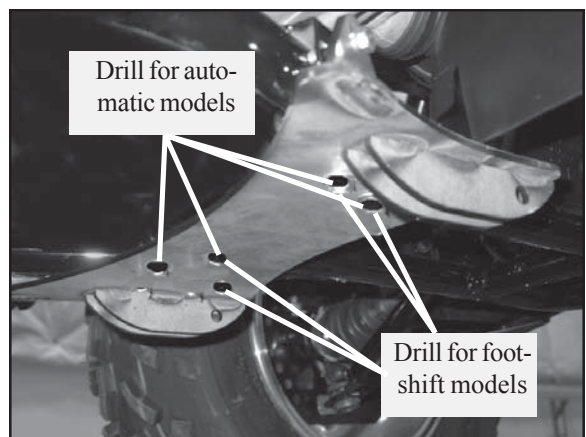

Figure 5 Drill through SkidPlate
4. With the Plow Mount (A1) flush against the skidplate, drill four holes in the plow mount and up through the skidplate as shown in Figure 5. Be sure to make note of which holes should be drilled per the model that you own. On the left-hand side, automatic models will mount to the rear and center hole, while foot-shift models will mount to the center and forward hole. Proceed slowly and only drill through the skidplate.